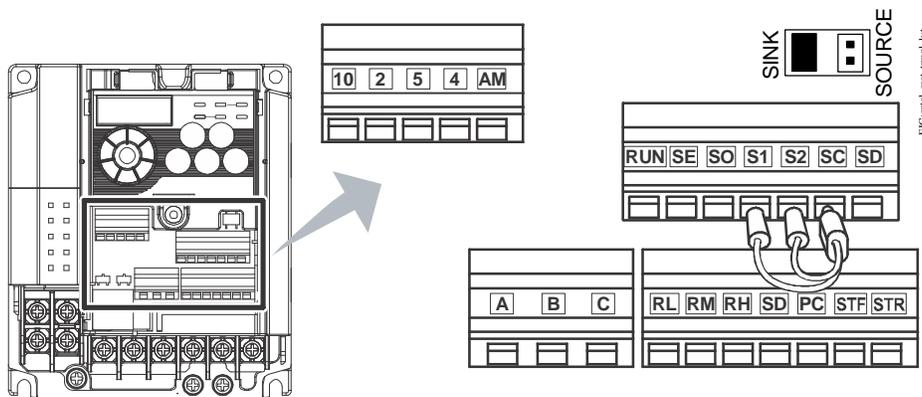

Figure 20: Locating the Low-Voltage Wiring Terminals
2. Locate the low-voltage wiring terminals (Figure 20).